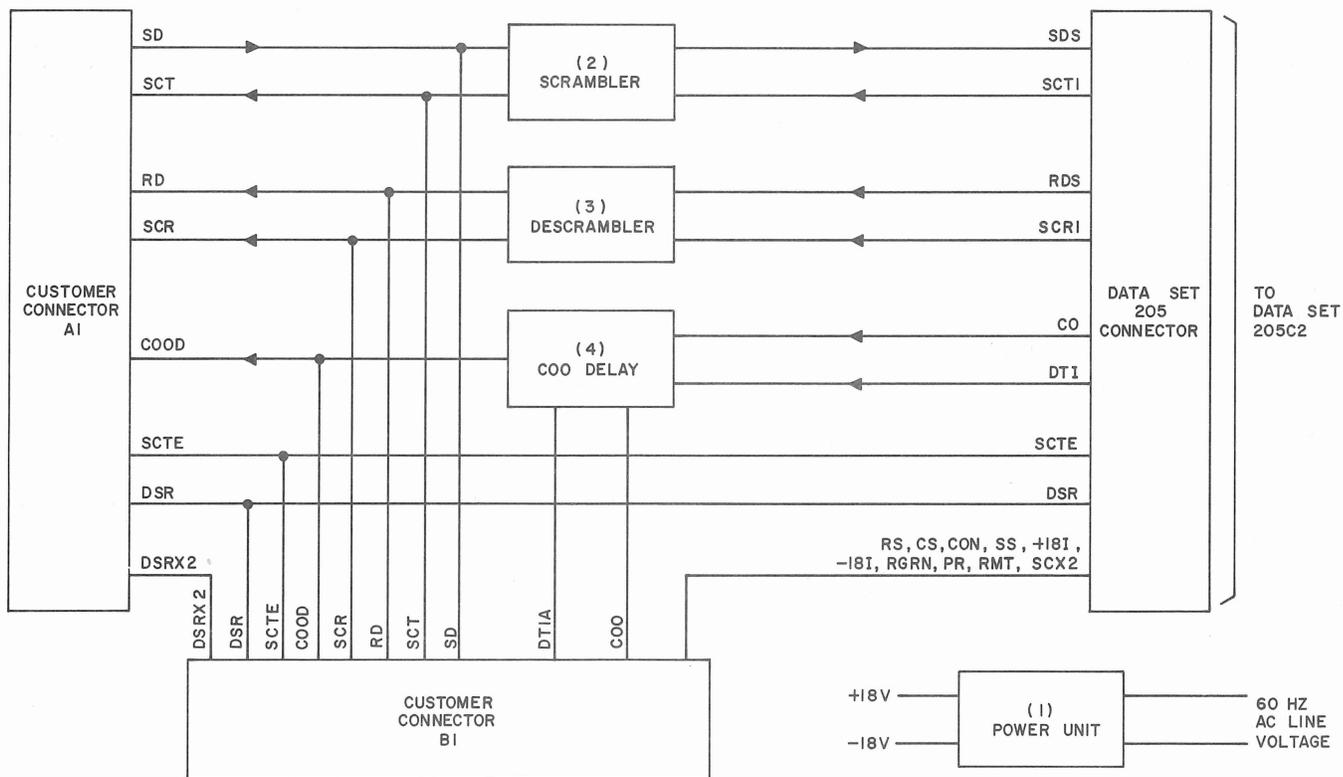

Fig. 3—Data Auxiliary Set 811D1, Block Diagram
2.07 A block diagram illustrating interconnections between the data auxiliary set functions is shown in Fig. 3. A brief description of each block in numerical sequence is presented in the following paragraphs.